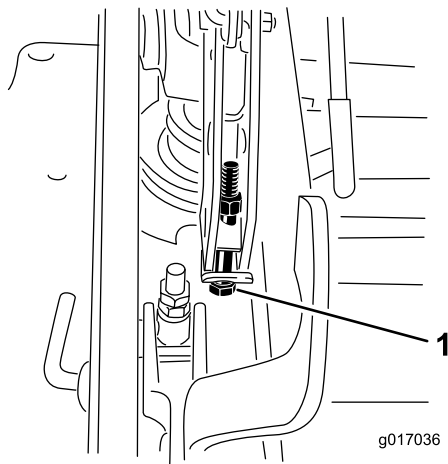

Figure 93
12. If the deck is too low, tighten the single-point-adjustment bolt by rotating it clockwise. If the deck is too high, loosen the single-point-adjustment bolt by rotating it counterclockwise (Figure 93).